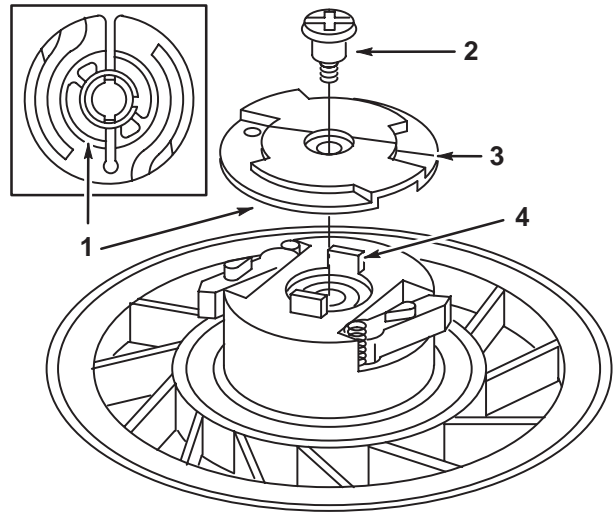

Fig. 79 – Installing Retainer and Screw
2. Install retainer making sure that slots in retainer engage tabs on pulley, Fig. 79.